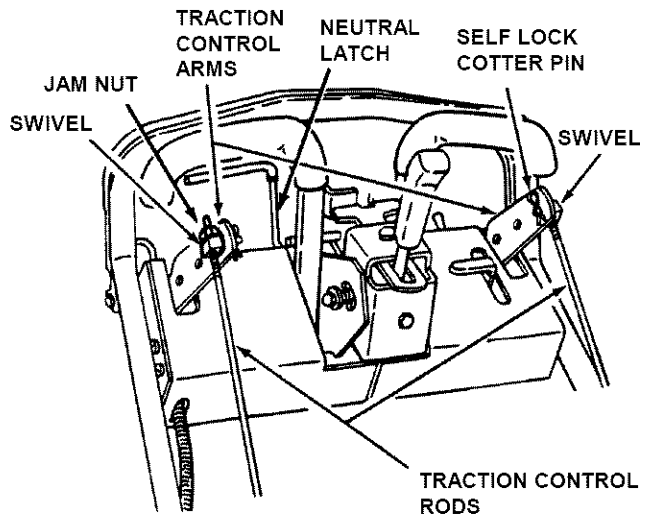

FIGURE 3.8
**STEP 2:** Place both Traction Levers in the Neutral position and engage Neutral Latch. See Figure 3.8.
**STEP 4:** Disconnect the swivel from the right and left traction control arms and loosen swivel jam nuts. See Figure 3.8.